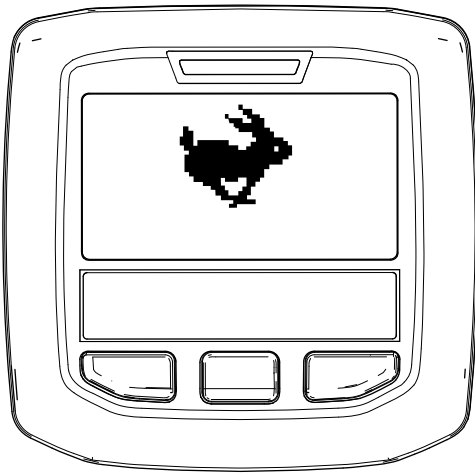

Figure 84
**Note:** The InfoCenter displays the TRANSPORT icon (Figure 84).